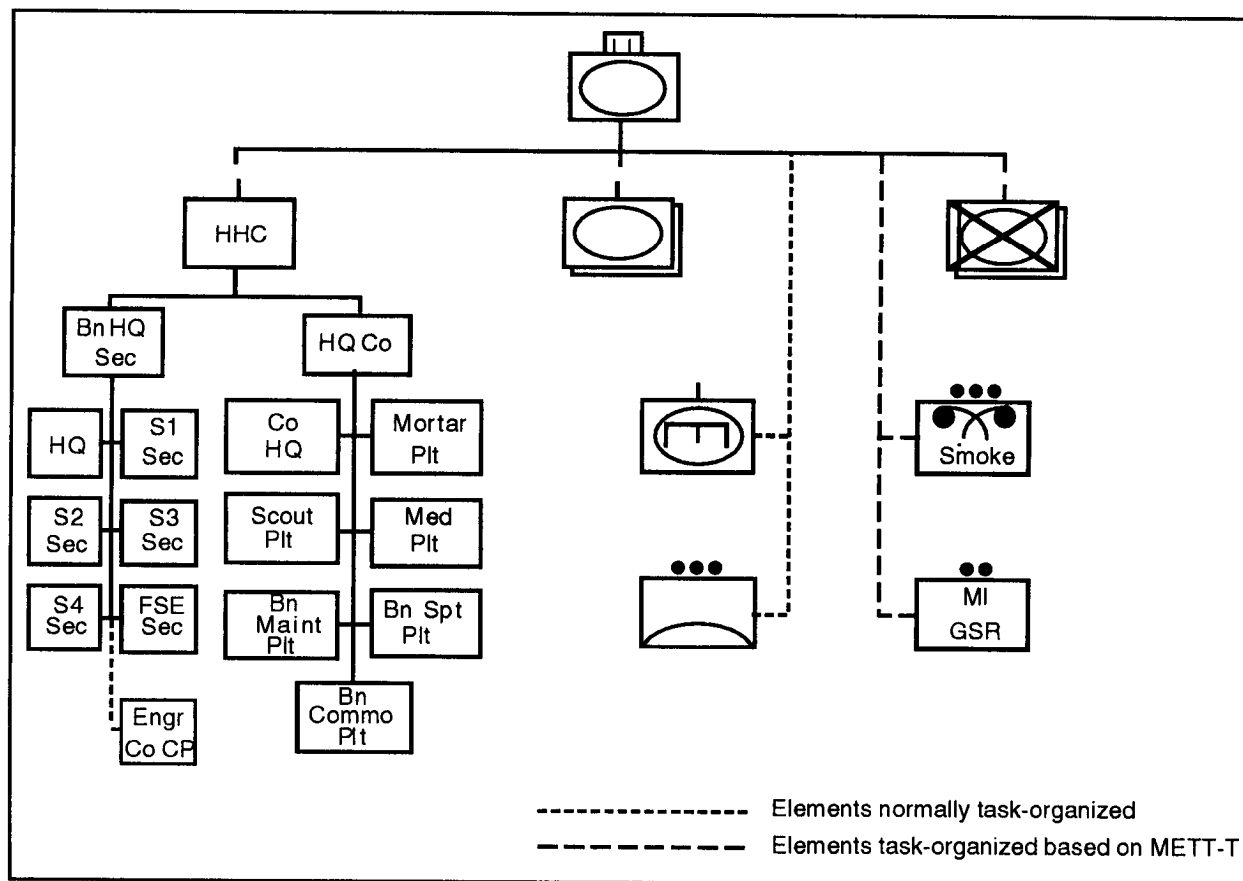

Figure 1-1. Armored TF (balanced)
The TF is formed by placing pure (not task-organized) tank and mechanized-infantry companies under the command of a battalion headquarters. Combat support (CS) and combat service support (CSS) elements within the brigade perform mission analysis and are integrated into the TF structure based on the higher commander's estimate of the mission and the assets required to accomplish the specific mission. This provides a versatile force mix, increasing the options available to the force commander (see Figure 1-1).